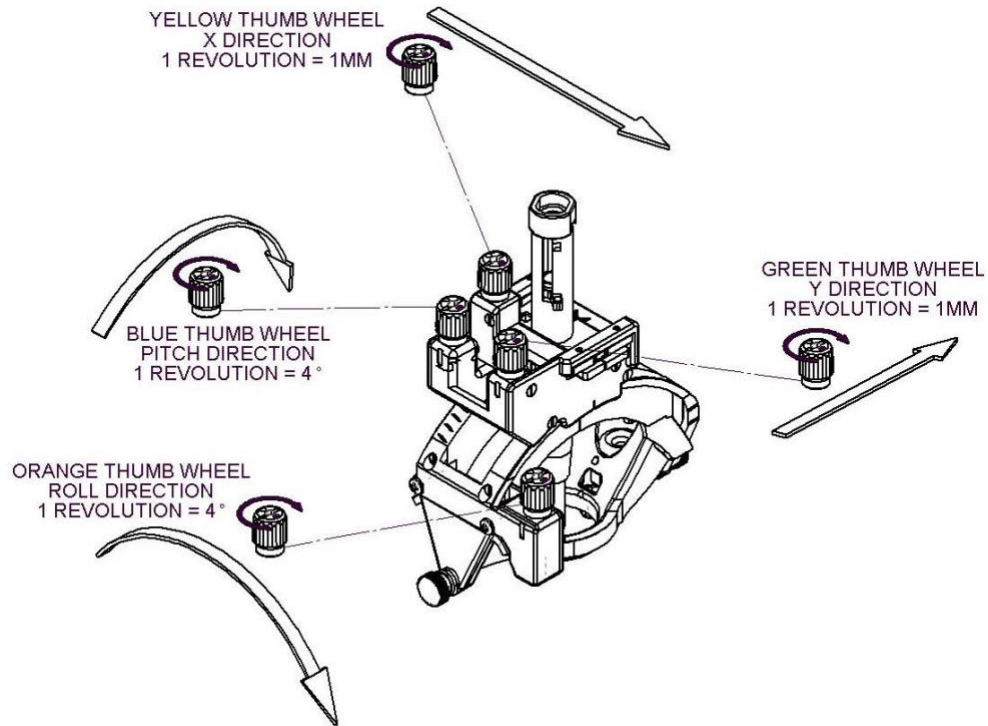

Figure 12: Tower Movements
2. The thumb wheels are color coded: Pitch is Blue, Roll is Orange, X is Yellow, and Y is Green. **See Figure 12.**